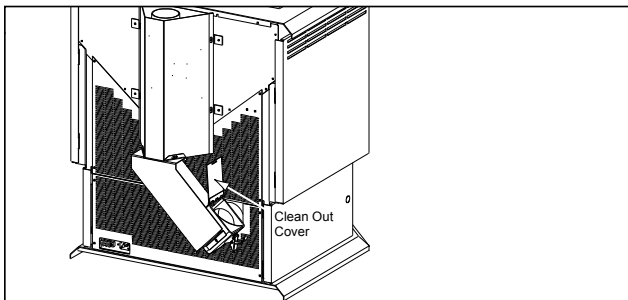

Figure 31.1
- b. Open the clean-out cover. **See Figure 31.1.**